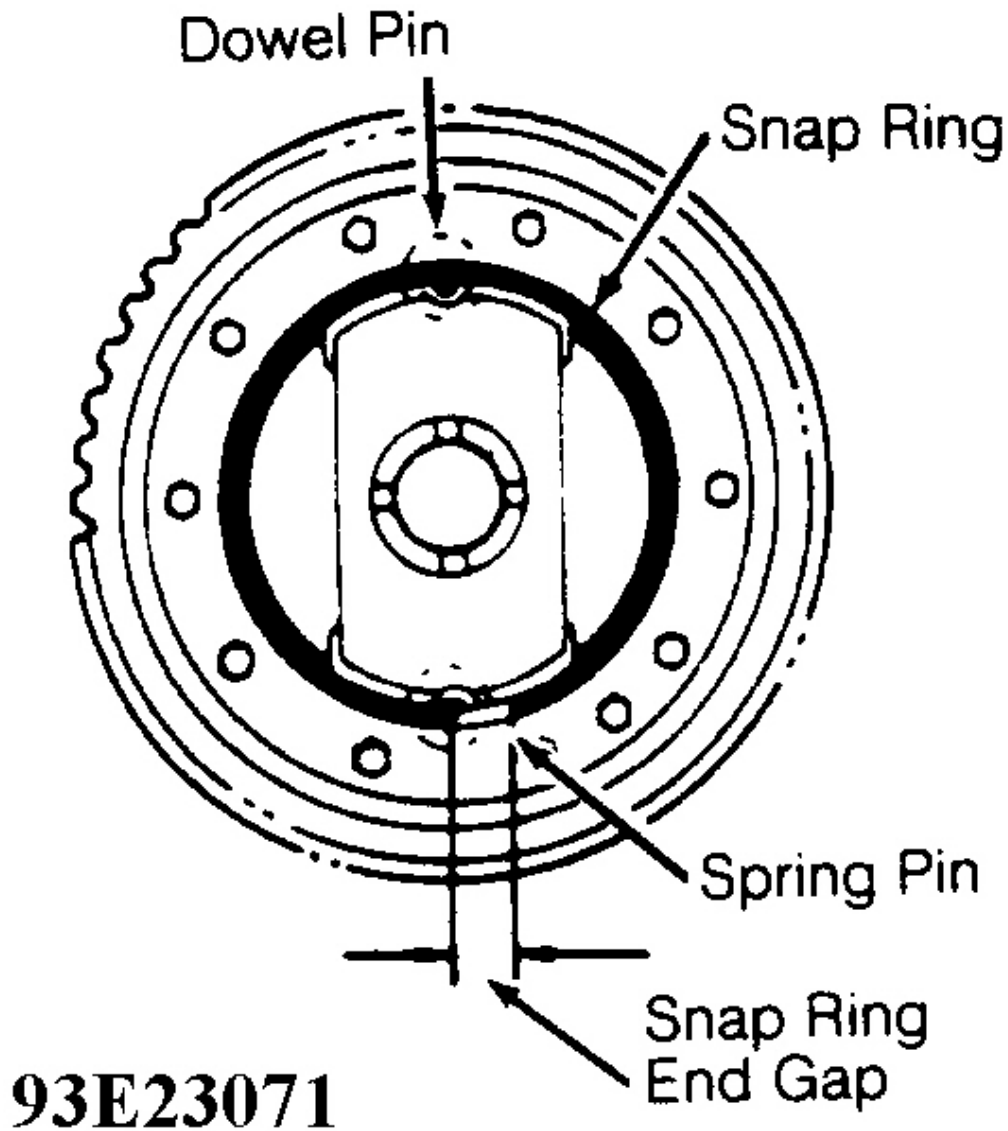

Fig. 34: Installing Speedometer Drive Gear Retaining Snap Ring
7. Install snap ring so raised end of snap ring is away from differential carrier. See **Fig. 33** . Ensure snap ring end gap is properly positioned in relation to differential carrier. See **Fig. 34** . Using Driver (07746-0030100), install bearings on differential carrier (if removed).